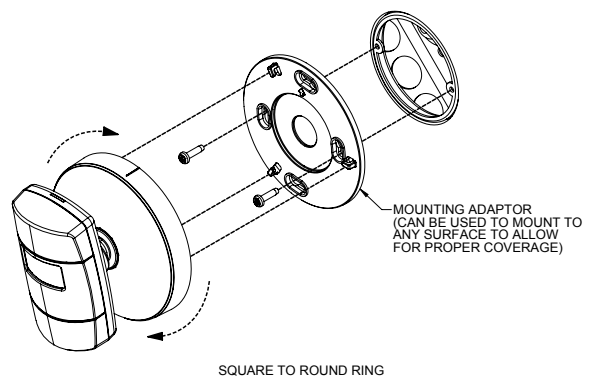

Figure 4
**Option 1** - Mount to a square to round drywall ring (see Figure 4)